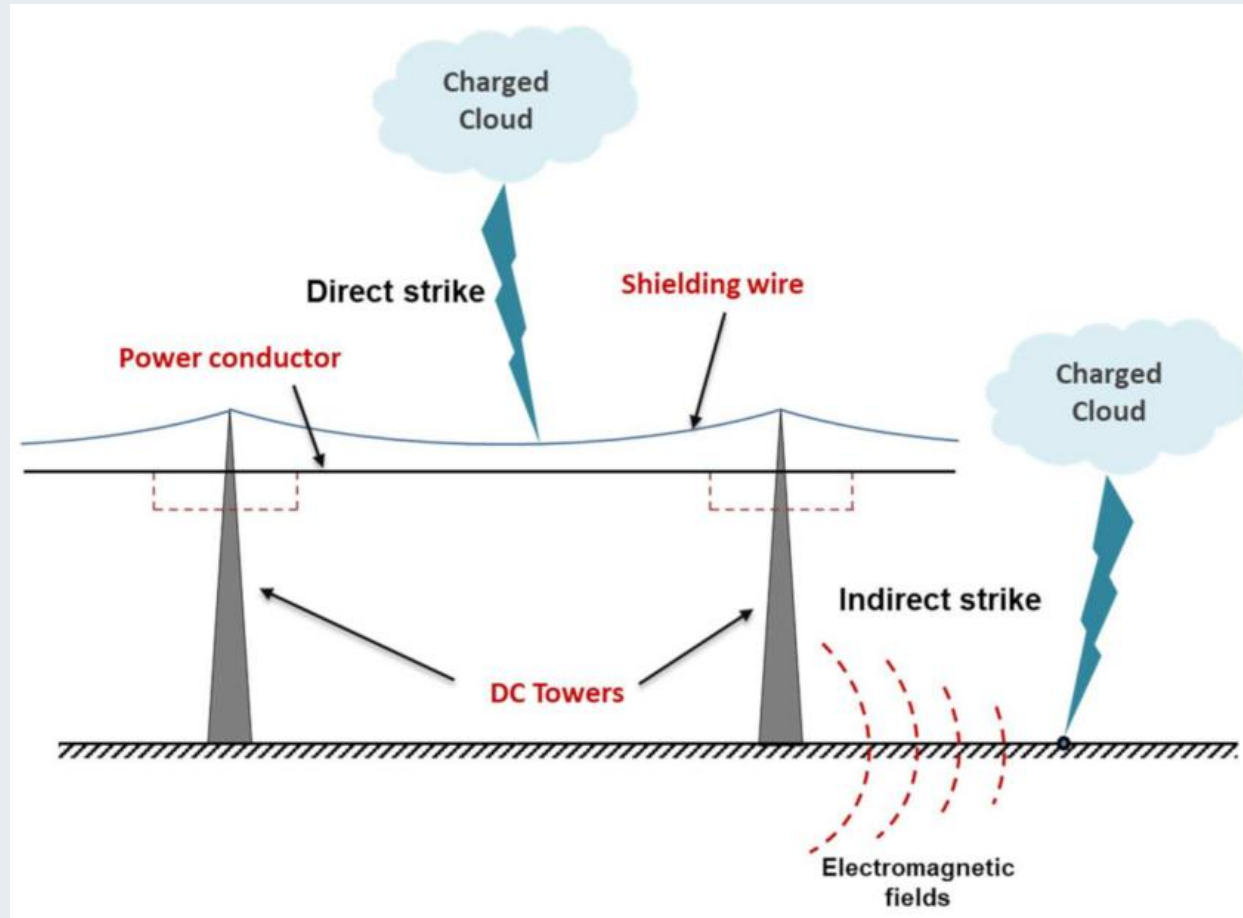

Figure 1. Lightning strike that leads to short-circuit in powers system.
- These transients, which can be caused by faults, switching, or lightning as presented in Fig.1, can cause components to be damaged by excessive heat or insulation breakdown.
Url: <https://www.researchgate.net/publication/358664204/figure/fig1/AS:11431281397047971@1745502699797/Schematic-diagram-of-lightning-strike-mechanisms.tif>